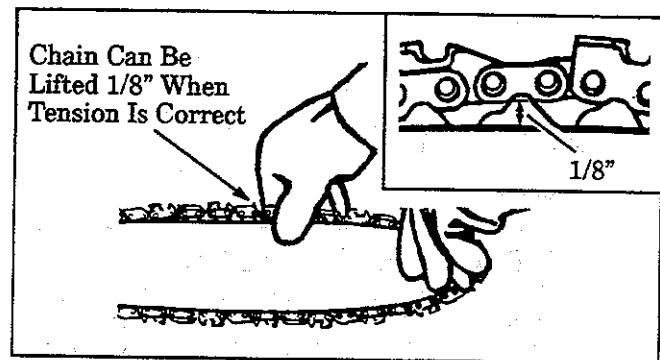

Figure 10
2. Check the tension by lifting the chain from the Guide Bar at the center of the bar. Figure 10.